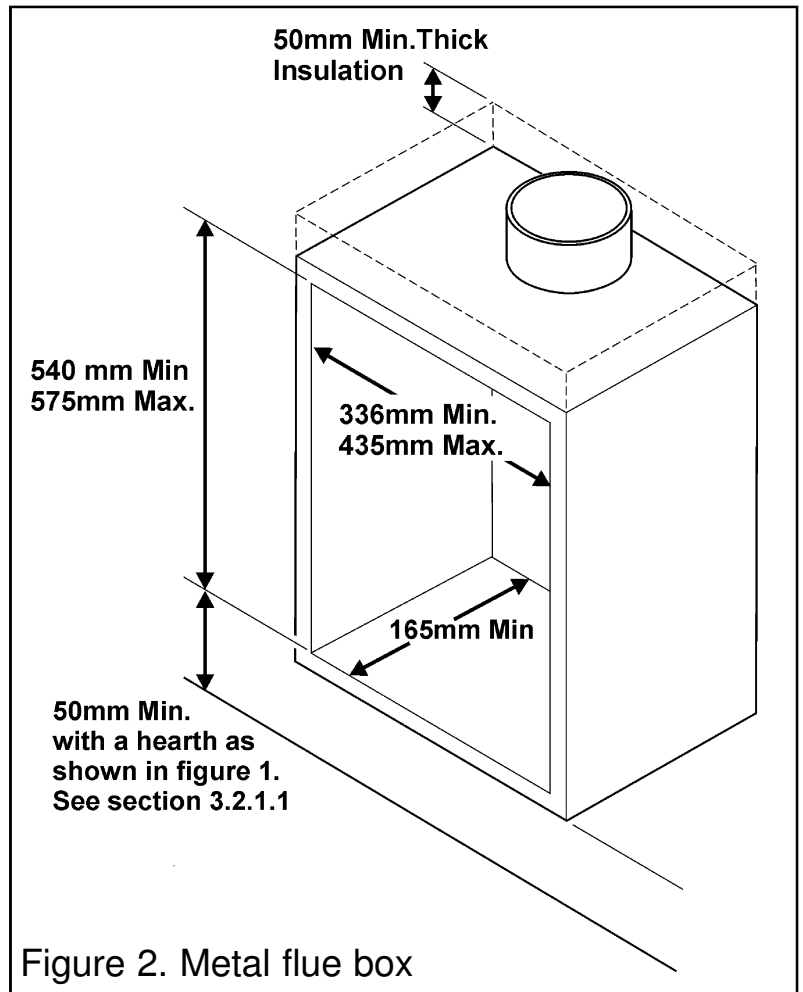

Figure 2. Metal flue box
**3.2.2** To a fireplace incorporating a metal flue box conforming to BS 715 and BS EN 1856 Part 1 with a minimum internal depth of 165mm. Incombustible mineral wool insulation of not less than 50mm thickness must be applied to the top surface of the hotbox (See figure 2) and it must stand on a non-combustible base.
The whole of the top surface of the metal flue box must be covered with a minimum 50mm layer of mineral wool or equivalent insulation (See figure 2).